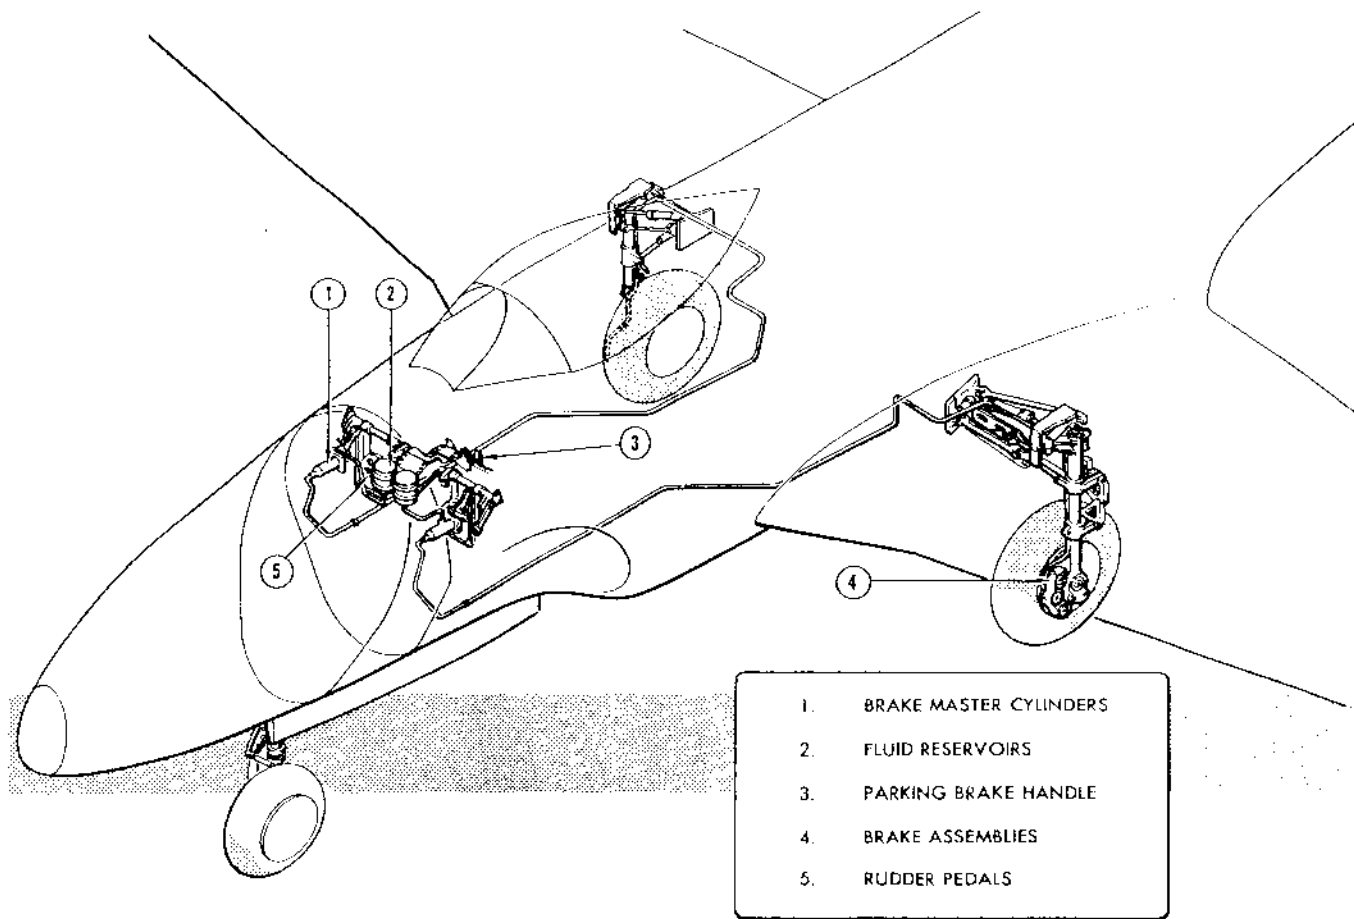

Figure 79 — Brake System
(1) DESCRIPTION.—The nose wheel assembly consists of a 22 x 7.25—11.50, low-profile, cantilever wheel (Bendix 145120), a 22 x 7.25—11.50, smooth contour, six-ply rating casing, and a 22 x 7.25—11.50, low-profile tube. The wheel is the split type, with the two sections bolted together, similar to the main-gear wheel.
(2) REMOVAL AND INSTALLATION.—Refer to paragraph b(2), (3), and (4) preceding.
d. BRAKE SYSTEM. (See figure 79.)
(1) DESCRIPTION.—The airplane is equipped with hydraulic brakes operated by the rudder pedals (5). Hydraulic fluid is supplied by two reservoirs (2) connected one to each master cylinder (1). The reservoirs are mounted on the armor plate in the armament compartment. The master cylinders, one connected to each rudder pedal, supply pressure through lines to the single-disc brake assemblies, Goodyear part No. 511980, mounted one on each main alighting gear. Since the master cylinders are connected individually to the left and right brake units, the two brakes are independent systems, and may be applied individually or simultaneously. A parking brake, with control handle located below the instrument panel on the airplane center line, is also included in the brake system.